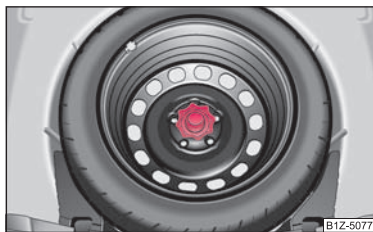

Fig. 176 Luggage compartment: Spare wheel
The spare wheel lies in a well under the floor covering of the luggage compartment and is fixed in place using special screws ⇒ fig. 176.
- Stow and attach the replaced wheel in the spare wheel well using a special screw ⇒ page 206, fig. 176.